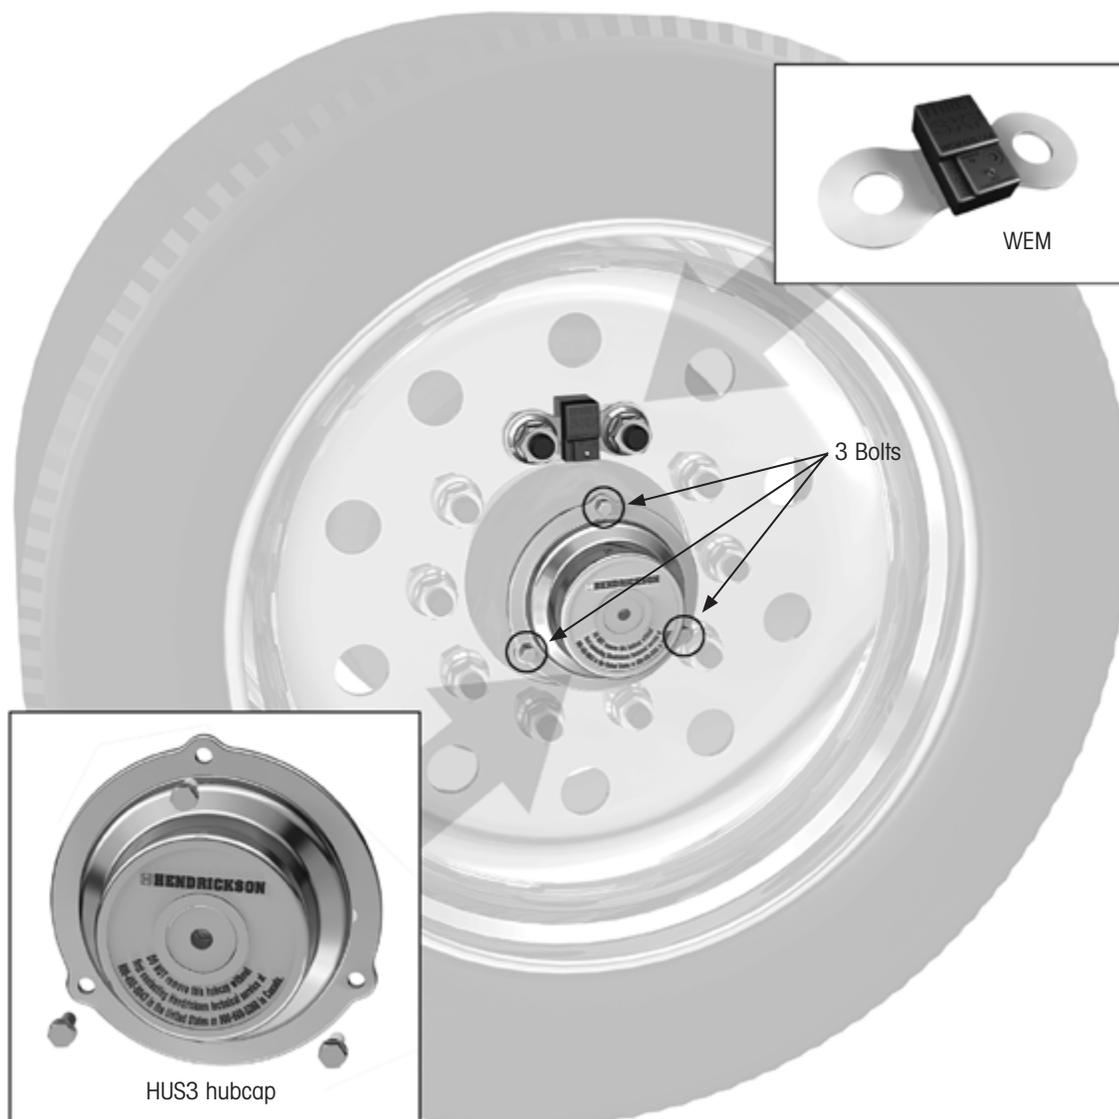

Figure 1: *HUS3 hub cap and WEM*
STEP 2. Look for the WEM attached to wheel studs (see Figure 1). If the WEM is present no further action is required. If not, please continue to next step.
STEP 3. Look for a 3-bolt hub cap, a unique feature of the HUS3 wheel-end system. If the hub cap has the unique 3-bolt design, you have an HUS3 wheel-end system (see Figure 1) and need to proceed to the next step.